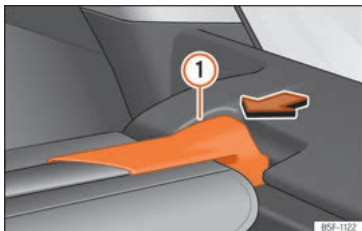

Fig. 174 In the luggage compartment: remove the shelf.
- Press the rear shelf support »» Fig. 174 ① in the direction of the arrow.
- Engage the support of the rear shelf »» Fig. 174 ① in the right housing.
- Check that the support »» Fig. 174 ① is properly engaged.